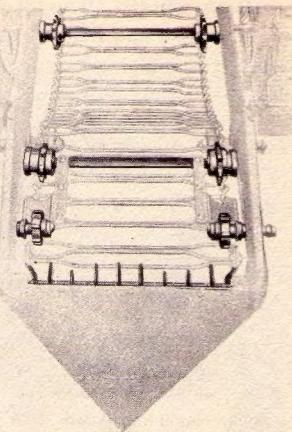
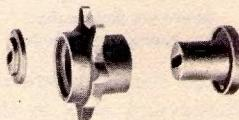

Fig. 471
Fig. 472
**Separate, removable bearings** (Fig. 471) carry the elevator apron. They are easily and cheaply replaced. Fig. 472 shows the parts of the middle bearings—one of the parts is an agitator sprocket which can be changed for a plain round bearing with lugs, in cases where less agitation is needed or desired. The sleeve, shown at the left, can be changed to opposite sides and so get double the wear.